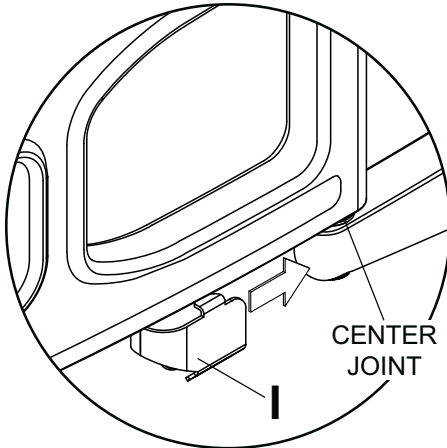

fig. 5.1
- 5** Cables may be routed using cable clip (I). Slip cable clip (I) onto bottom of center joint as shown in figure 5.1 and secure cables to cable clip using cable tie (J) as shown in figure 5.2. Secure cables to bottom of wall plate using cable tie (J) as shown below.